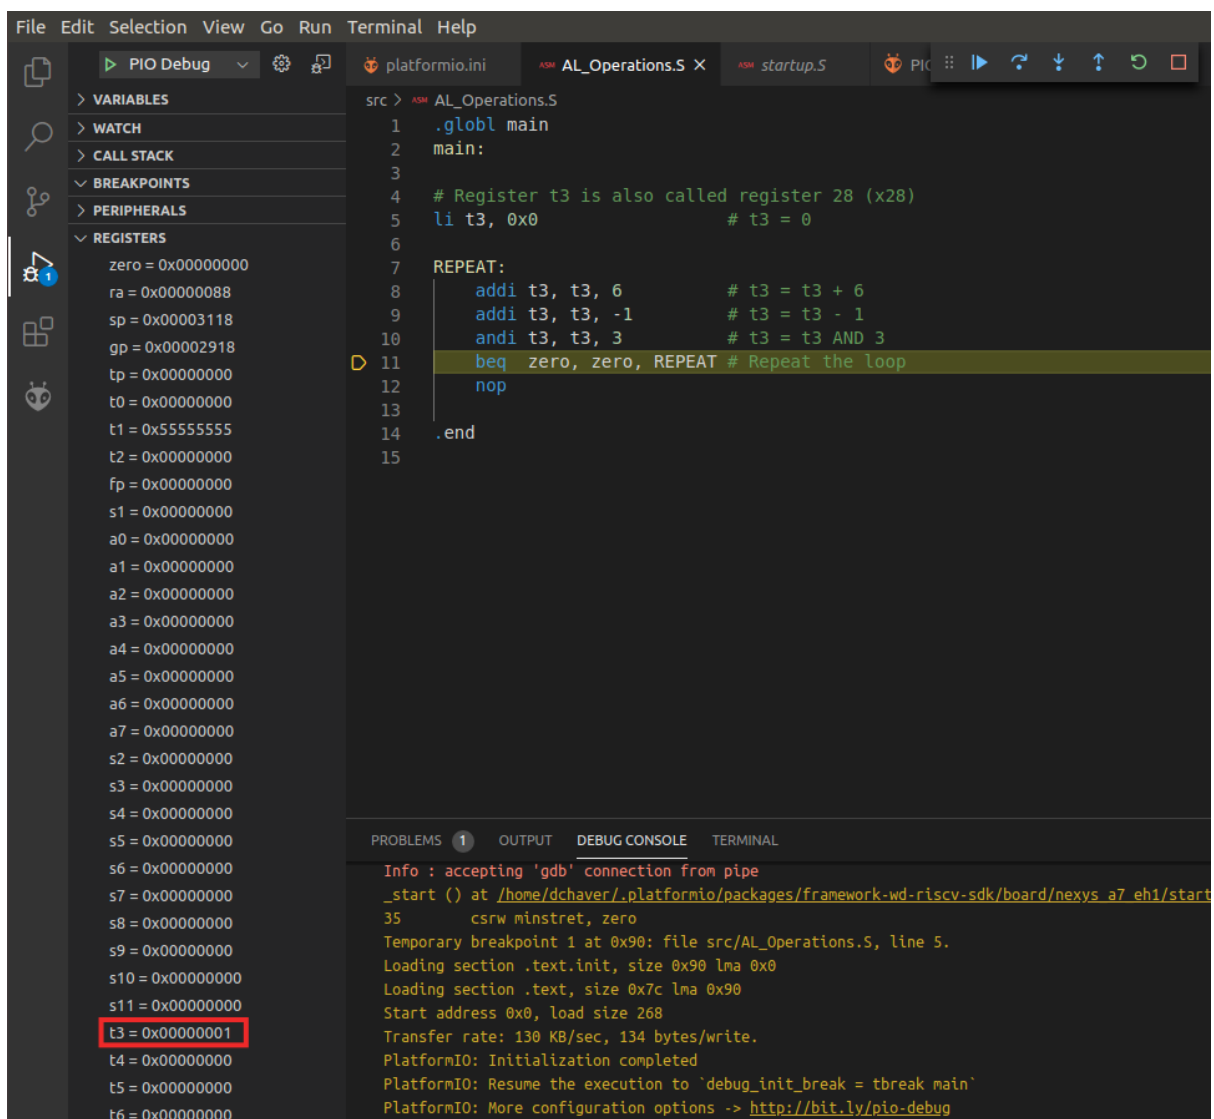

Figure 48. Viewing register contents
- Expand the Registers option in the Debugger Side Bar and continue the execution step-by-step . You will observe that register `x28` (also called `t3`, as shown in the REGISTERS section) stores the results of the three arithmetic-logic operations: *addition*, *subtraction*, and *logical AND*. See Figure 48.
(such as *sp* or *gp*), etc. When debugging is launched, this file opens in the main window (see Figure 48), and you can inspect it there.